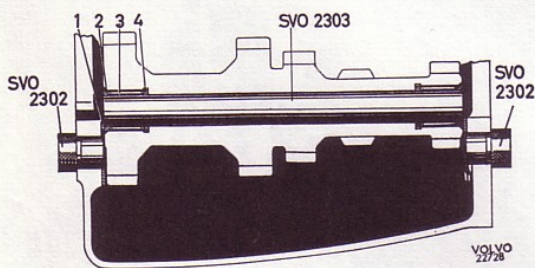

Fig. 30. Fitting idler gear
3. Fix the washers to the housing with grease, and guide them into position with SVO 2302, see Fig. 30. Lay the idler gear in the bottom of the housing.